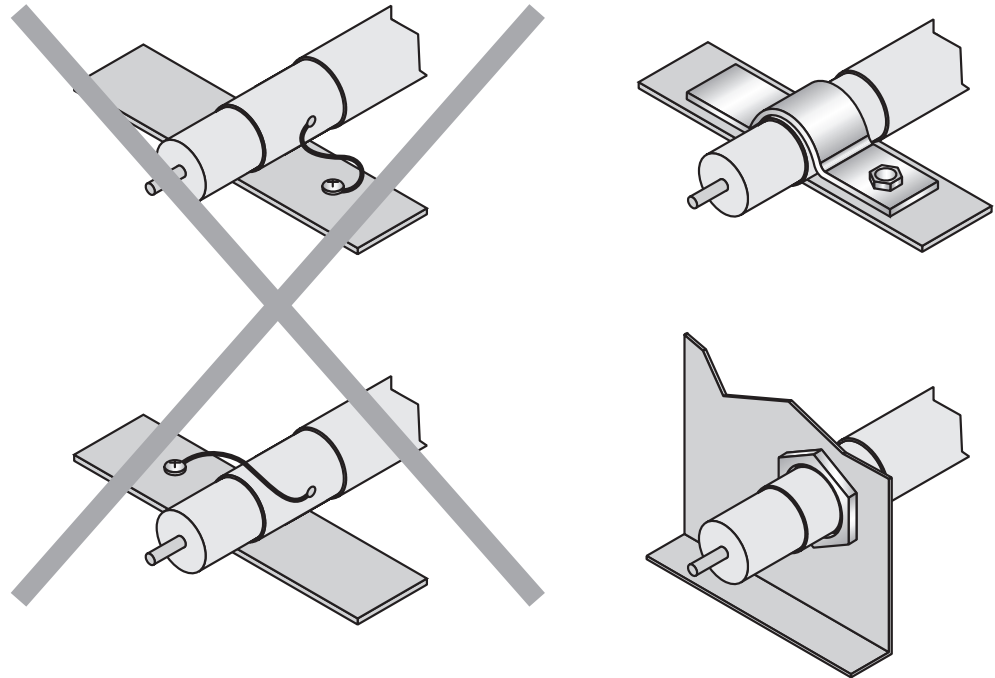

Figure 17: Make an extensive and low-impedance ground connection of the cable shield in the control cabinet
- The cable shield in the control cabinet must be connected to a large area of the signal ground, see figure 17.